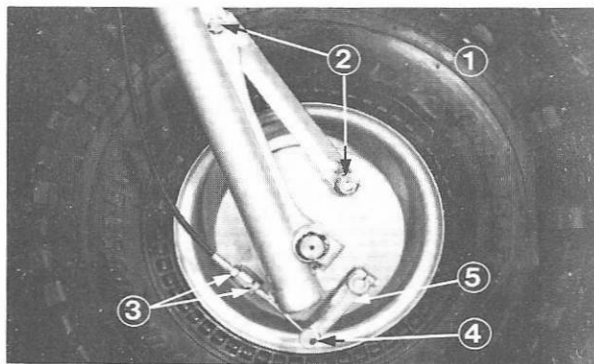

Fig. 45 (1) Front Wheel (2) Torque Arm Nuts (3) Cable Adjustment Nuts (4) Cable Retainer (5) Brake Arm
2. Loosen the torque arm nuts (Figure 45).